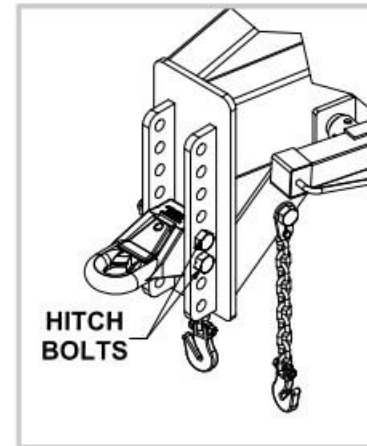

FIGURE 10
5. Adjust hitch clevis up or down accordingly until the measurements are within 1/4" of each other. (fig. 10).